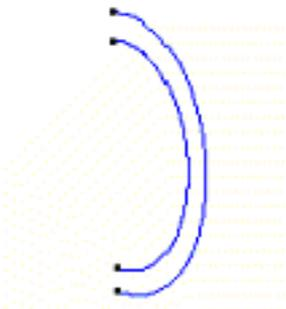

Figure 22. The result of the first 180-degree rotation
- 3 . From the **Copy** window, select **Points** and **Rotation**. Enter an angle of 180 degrees and from the **Do extrude** menu, select **Lines**. The axis of rotation is the x axis. Enter two points defining the axis, one in **First Point** and the other in **Second Point**, for example, (0, 0, 0) and (100, 0, 0) (Figure 22).